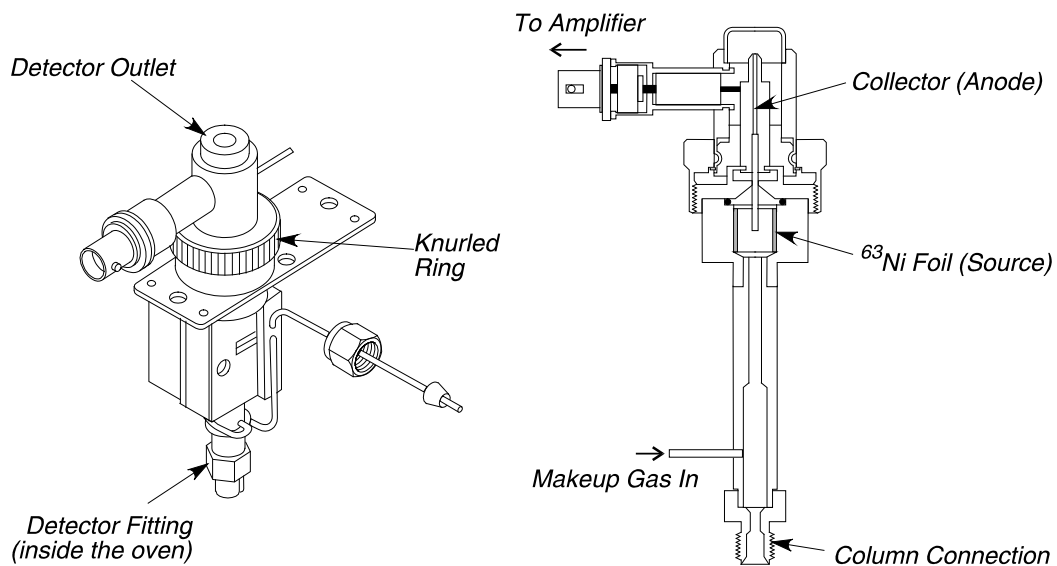

Figure 53. Isometric view and cross section view of the ECD.
2. Open the detector cover (see Figure 53).